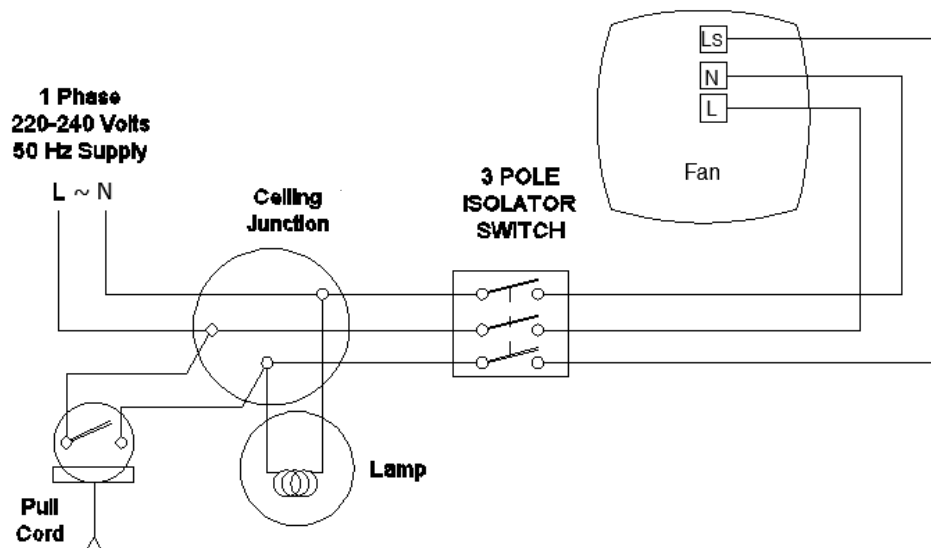

Fig.4. Removing the grille for wiring and setting the controls
2. Carefully pull the front panel off the inner grille. (fig. 4)